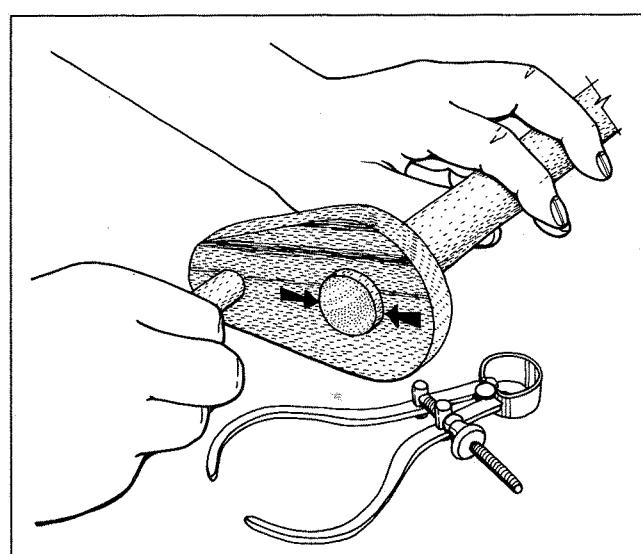

FIGURE 8-4
- 8 Take the crank plate, drill the holes through on the drill press, and then fret out the shape on the scroll saw (Fig 8-4).